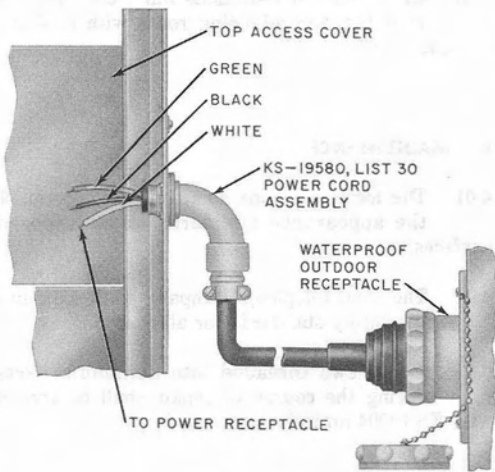

Fig. 22—KS-19580, List 30 Power Cord
- 3.15 Bring overhead power into an outdoor booth with a KS-19580, List 30 power cord assembly (Fig. 22).